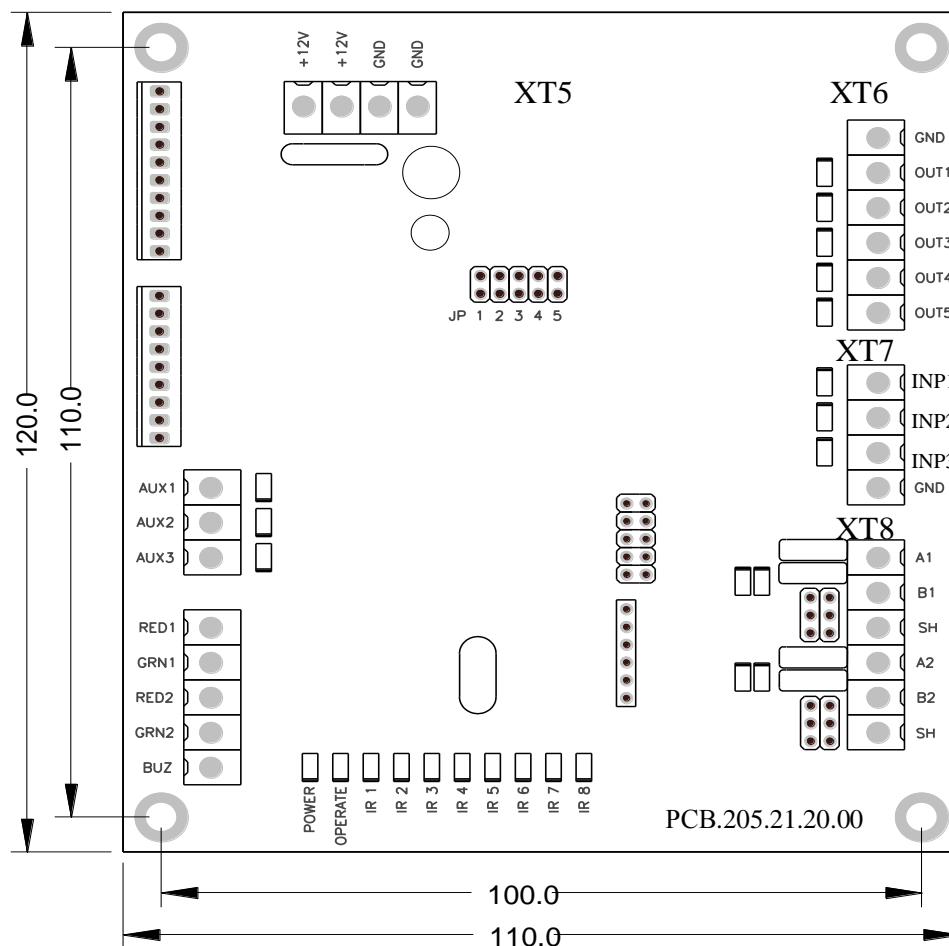

Figure 4 – Appearance of controller PCB.205.21.20.00
1.8.1.1 Appearance of controller PCB.205.21.20.00 is shown in the Figure 4.